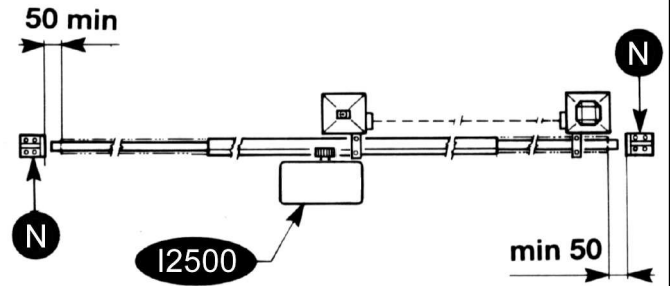

FIG. 2
- Besides the electrical or mechanical limit switches available on the operators, there must be, on both ends of the installation, a fixed mechanical stopper which stop the gate in the unlikely event of ill functioning of limit swithces on the operators. For this reason the fixed mechanical stopper must be of an adeguate size to withstand the static and kinetic forces generated by the gate (N) (Fig.2). The guide must be provided with two mechanical stops at its ends (N) (Fig. 2).